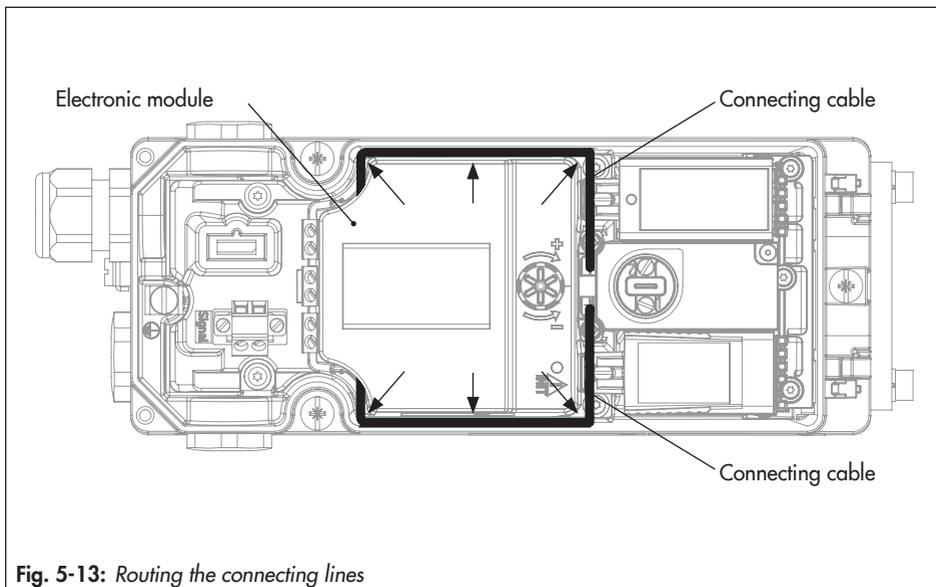

Fig. 5-13: Routing the connecting lines
4. Clamp the two connecting lines between the electronic module and the positioner housing and push them downward (as shown in Fig. 5-13). Make sure that the wires do not project out of the housing and get caught when closing the housing cover.